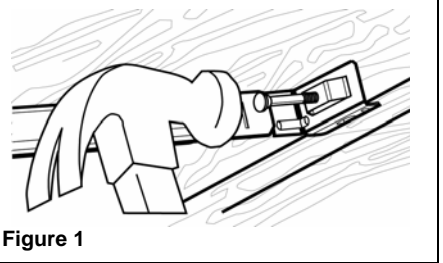

Figure 2
**Suspended Ceiling Installation:** Locate the four (4) T-bar slots near the end of the bar hanger (See Figure 2). Bend tabs out, slip the hanger bar over the T-bar and press the tabs back against the T-bar to hold it in place (See Figure 2).